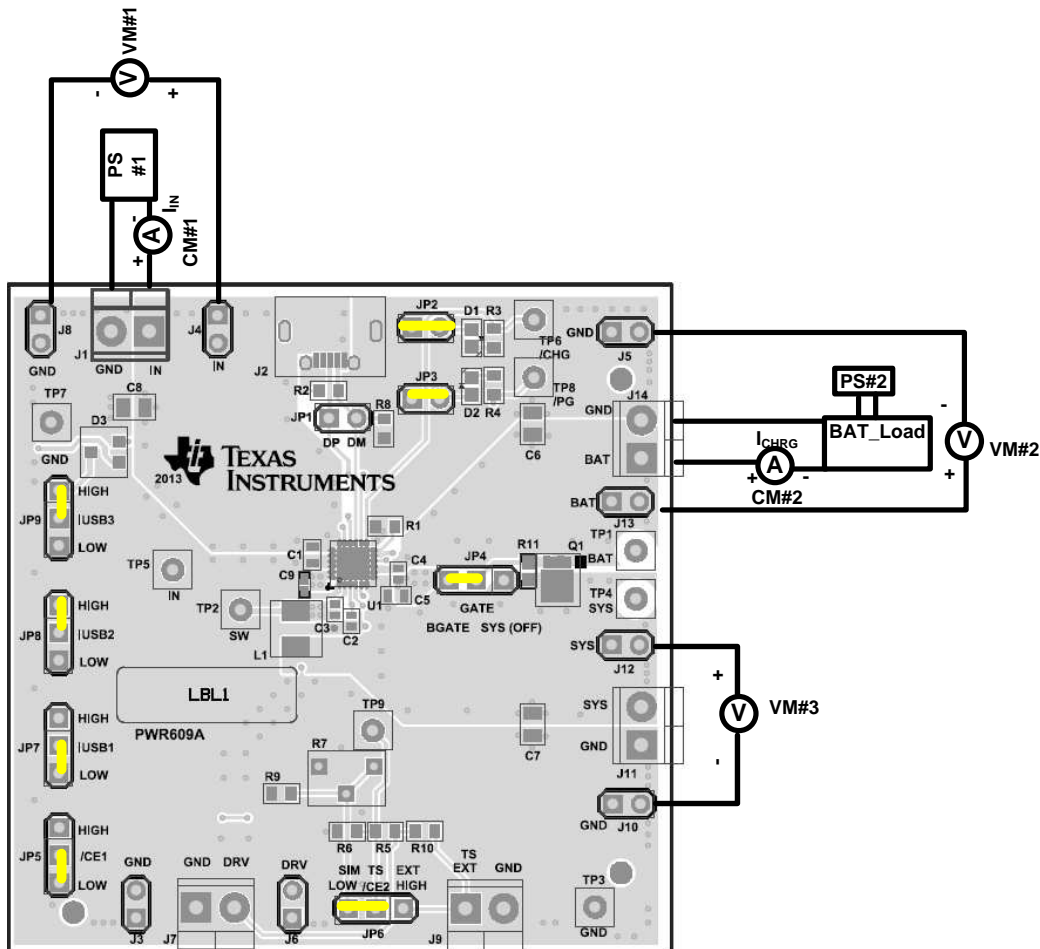

Figure 3. Test Setup for bq24265, bq24266, and bq24267 EVM (PWR609)
8. After the preceding steps are accomplished, the test setup for bq24265, bq24266, and bq24267EVM-609 is as shown in Figure 3.